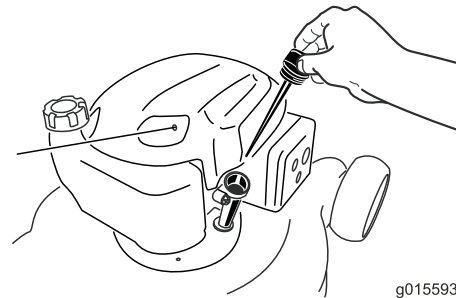

Figure 15
2. Remove the dipstick, wipe it clean, and insert it into the oil filler tube just until it stops **but do not screw it in** (Figure 15).